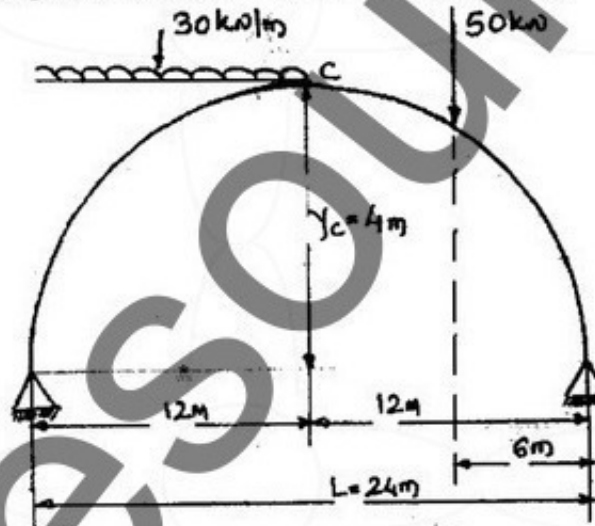

Fig Q10(a)
- 10 a. Determine the bending moment, Normal thrust and radial shear at a section 6m from the left support for a three hinged parabolic arch as shown in Fig Q10(a).